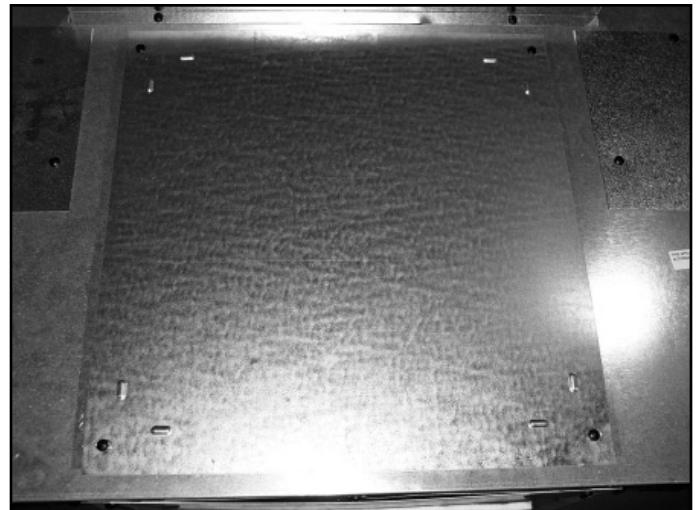

**Figure 9.15 Outer Cover-Top**
- Place outer cover plate on appliance top and replace four screws to hold outer cover plate in place. See Figure 9.15. Make sure insulation is replaced with cover plate!